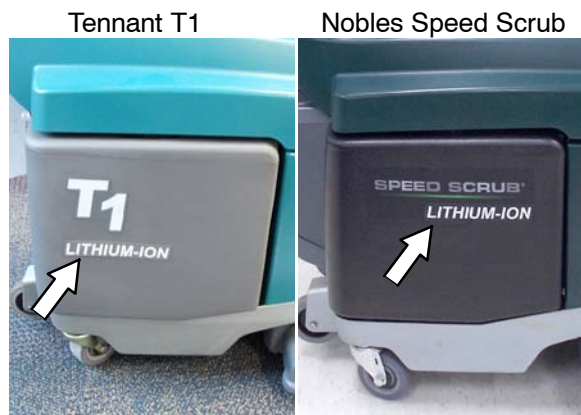

Fig. 15
17. Adhere the supplied "Lithium-ion" labels on machine as shown (Figure 15). Adhere one on each side of machine.